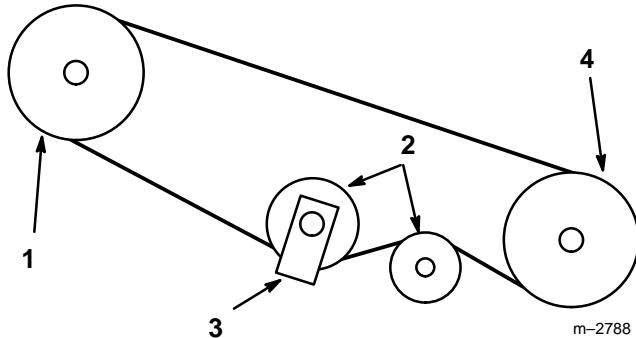

Figure 15
5. Rotate idler bracket to relax belt tension and slip belt off snowblower pulley (Fig. 15),